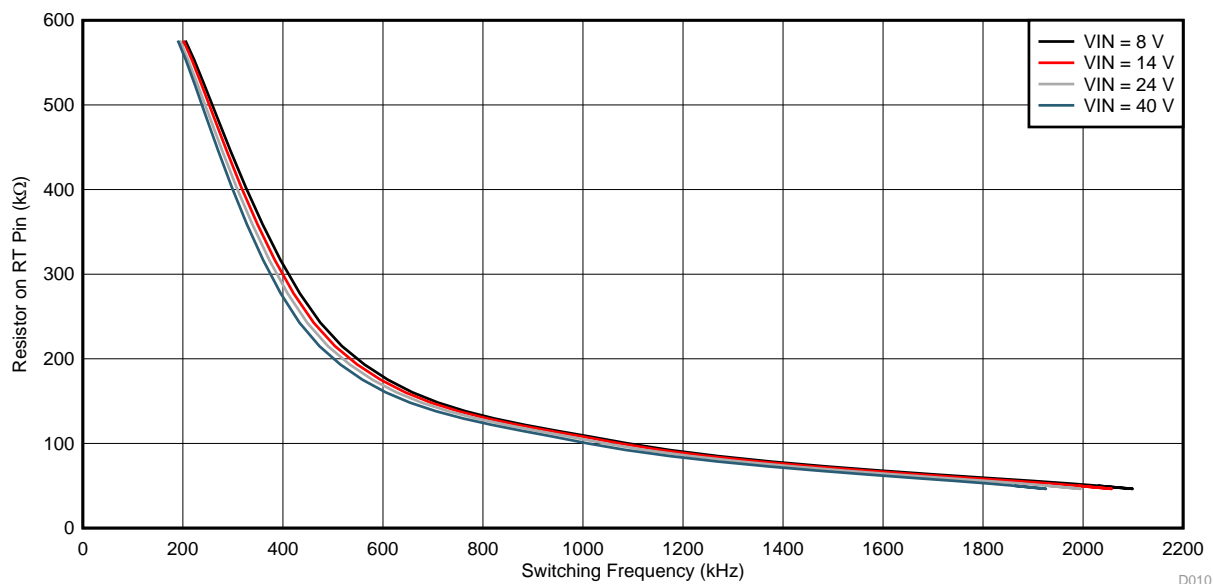

Figure 10. Switching Frequency vs Resistor Value
The oscillator frequency can be set by connecting an external resistor (R8 in Functional Block Diagram) to RT pin (pin 6). Figure 10 shows the relation between the resistor value (RT) and switching frequency (f_{sw}). The switching frequency can be set in the range 200 kHz to 2200 kHz. In addition, the switching frequency can be imposed externally by a clock signal (f_{ext}) at the SYNC pin.
Knowing the switching frequency, the value of resistor to be connected at RT pin can be calculated using the graph shown in Figure 10. Consider the oscillator tolerance ($\pm 10\%$) while selecting the external RT resistor. For example if $f_{\text{sw}} = 2.2 \text{ MHz}$ is required, select the RT resistor which corresponds to $f_{\text{sw}} = 2 \text{ MHz}$ in Figure 10 to allow +10% oscillator tolerance.